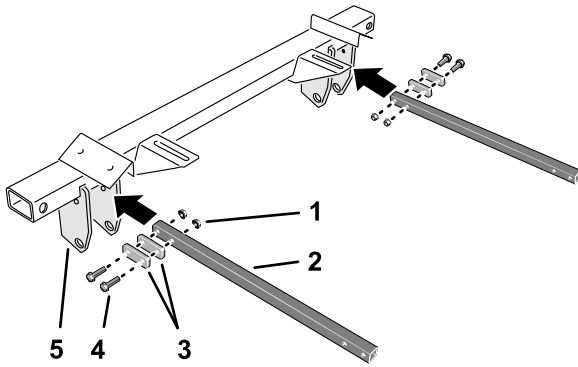

Figure 2
1. Loosely assemble a tube brace to the hinge bracket of the rear cross member with 2 spacers, 2 flange-head capscrews (3/8 x 2-1/2 inches), and 2 flange locknuts (3/8 inch) as shown in Figure 2.
2. Loosely assemble a tube brace to the hinge bracket at the other end of the rear cross member (Figure 2) with 2 spacers, 2 flange-head capscrews (3/8 x 2-1/2 inches), and 2 flange locknuts (3/8 inch).